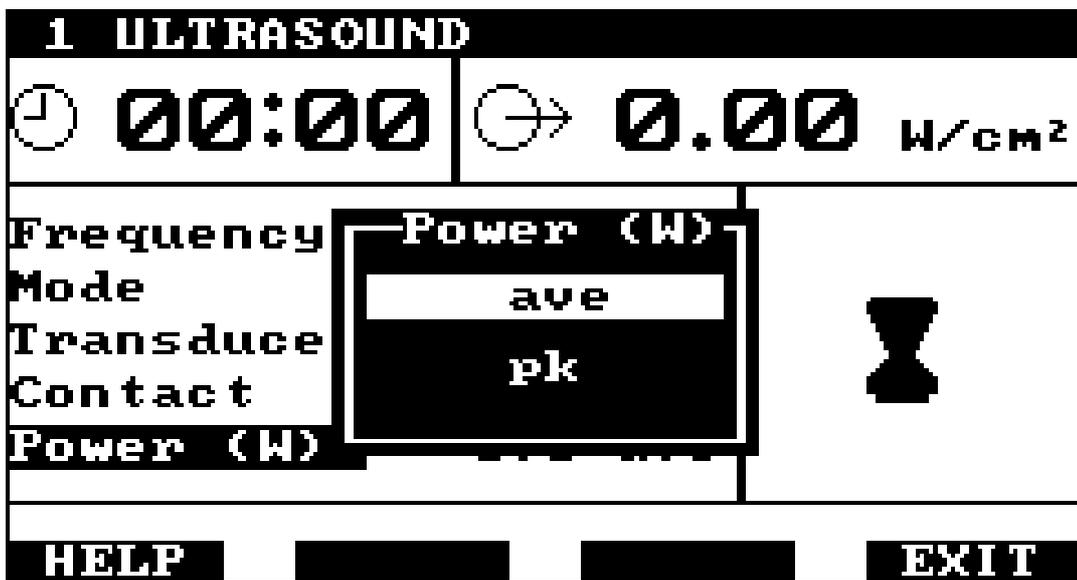

Figure 17 - Setting the Power display
Alternatively if the ENTER key is pressed when the label Power (W) is highlighted, a sub-window will appear (figure 17).